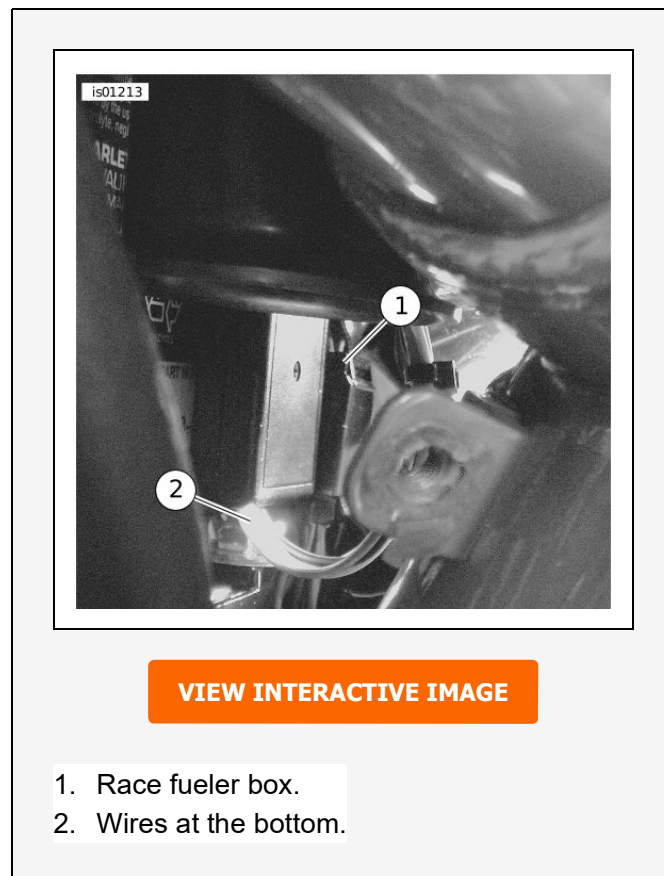

Figure 6. Fueler Box Wire Location
4. See Figure 6. Mount race fueler box (1) with wires facing down (2) in most accessible location using hook and loop strip.